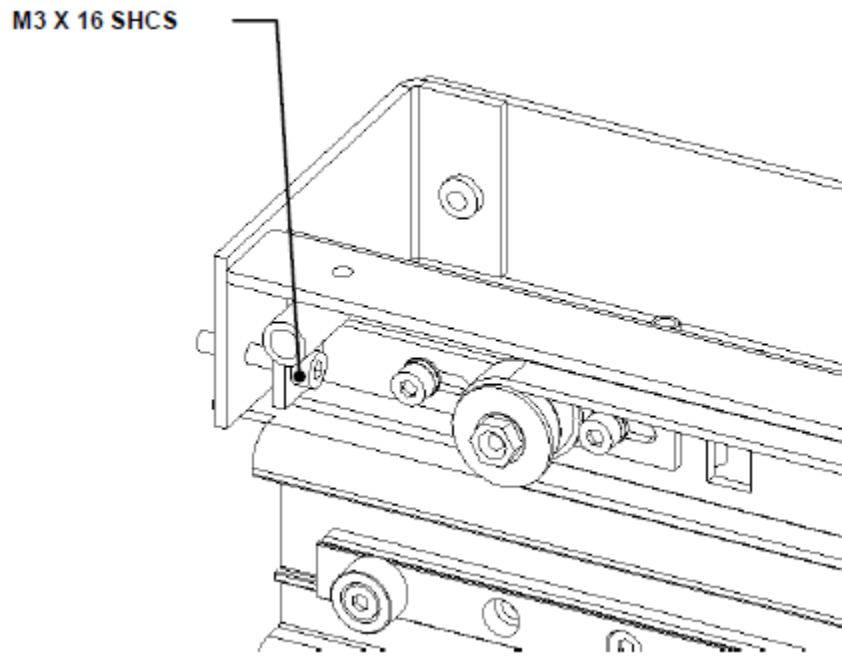

Figure Y-13: Screw between Y Idler Adjusting Plate and the Belt Tensioning Fixture
8. Fit the screw supplied with the fixture, through the Y Idler Adjusting Plate into the Belt Tensioning Fixture (Figure Y-13).